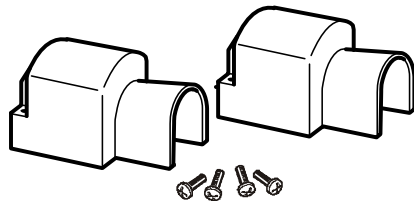

Figure 7 DC Terminal Covers
10. To protect the DC terminals, attach the DC terminal covers (Figure 7) to the inverter/charger, using the screws provided.